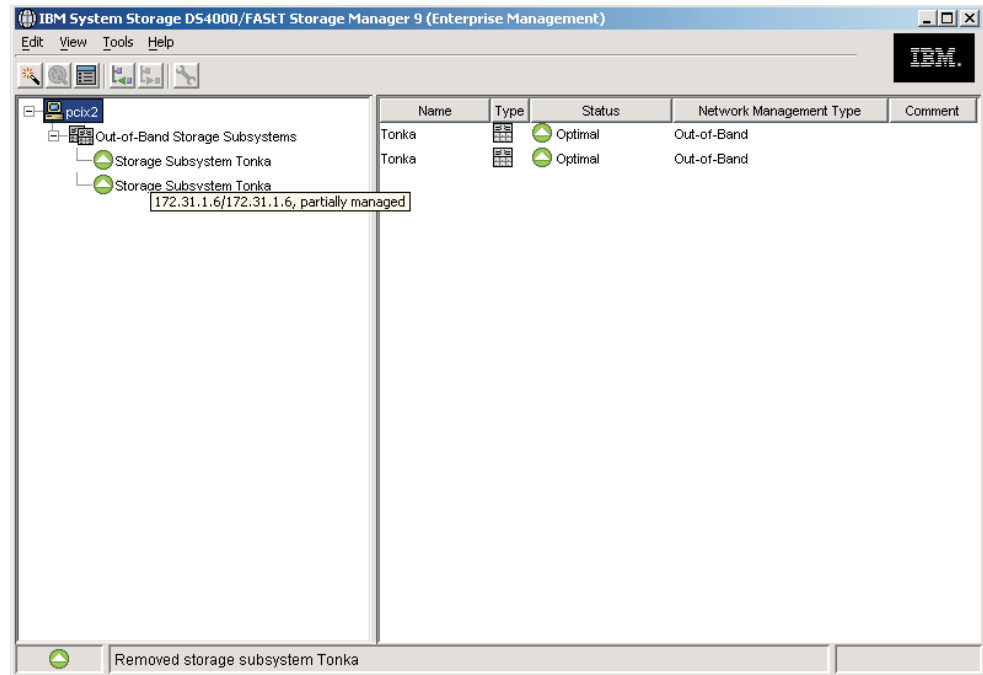

Figure 72. Dual entries appear in the Directly-Managed Storage Subsystem tree
- If controller A is added as a separate entry in the Enterprise Management window as shown in Figure 72, perform the following steps: